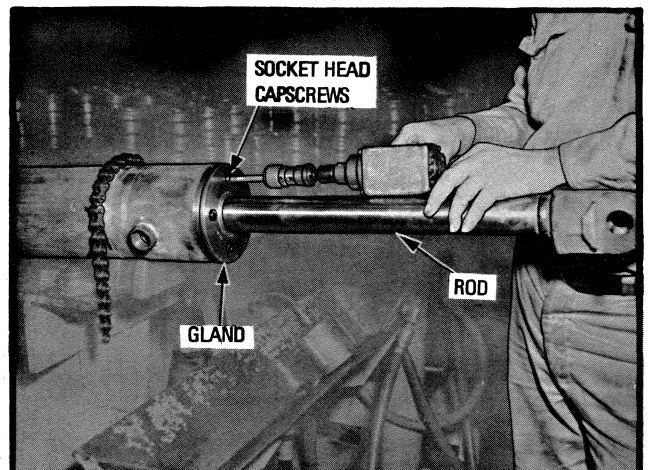

Fig. 2—Disassembly of Gland Assembly
2. Remove 3 capscrows fastening the gland to the head. See Fig. 2.